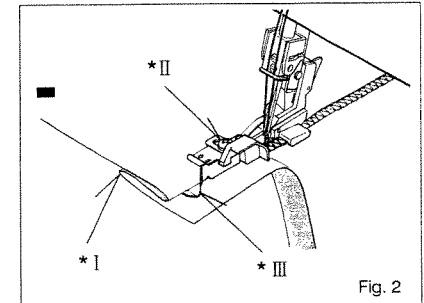
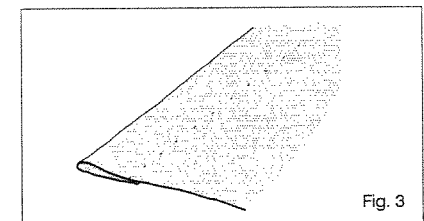

Fig. 2
Fig. 3
2. Place fabric under the presser foot with the 'wrong' side up. Feed the folded edge through the guide in the front of the foot and lower the presser foot lever. Try a stitch (or several stitches) on a spare piece of the actual fabric, and adjust the guide so that the needle just catches the fold. Adjust the guide by means of the small screw on the top of the foot - see Fig. 2.
3. When correctly set, sew the hem. The outside edge will be cut away by the machine - see also Fig. 2. After completion, open out and press again. The stitches should be almost invisible on the 'right' of the fabric - see Fig. 3.
Si es necesario ajustar la guía mediante el tornillo mostrado en la Fig. 2.
Cuando esté correctamente fijado, coser el pliegue, el borde exterior será cortado por la máquina (ver también la Fig. B). Después de coserlo, abrirlo, las puntadas serían prácticamente invisibles en el lado ederecho o anverso del material (Fig. 3).